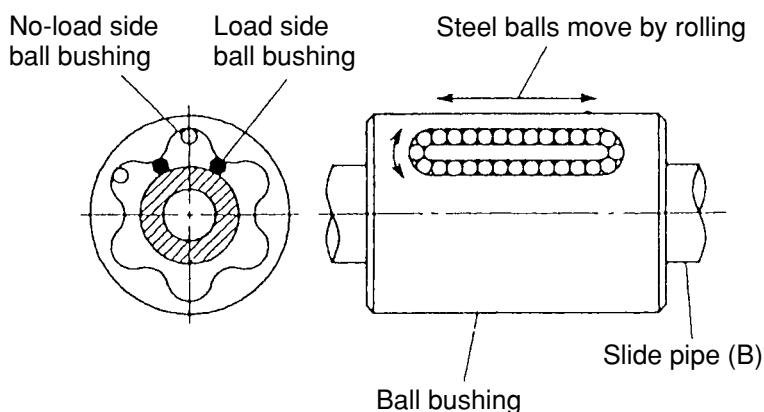

Fig. 50
- (1) The ball bushing is commonly called a linear ball bearing. Inside the bearing is elongated guide grooves in which steel balls circulate and roll when a load is applied (as indicated by the arrow marks in Fig. 50). This type of device is widely used in automated machine tools.